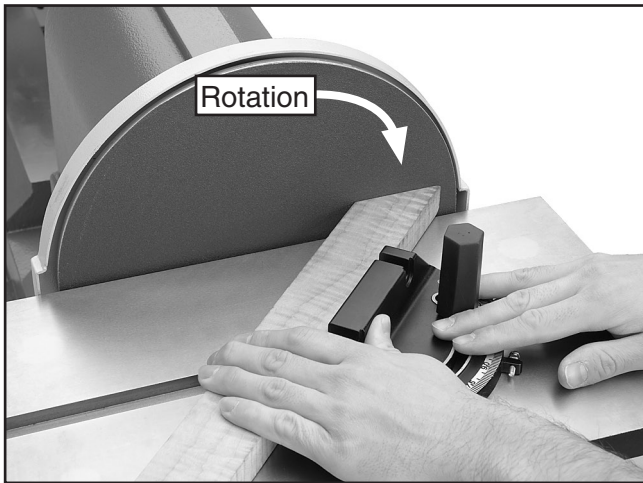

Figure 33. Typical miter sanding operation.
3. With light, but steady pressure, push the workpiece slowly into the downspin side of the rotating disc (**Figure 33**).